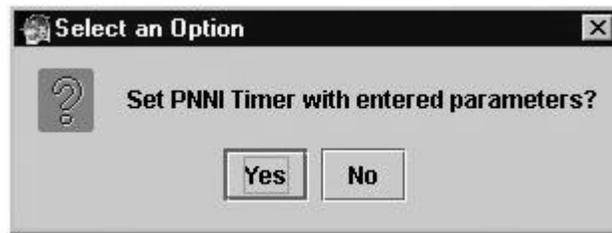

Figure 8-15: Confirm Modify PNNI Timers Dialog
2. Click **APPLY**. The Select an Option dialog displays. See Figure 8-15.